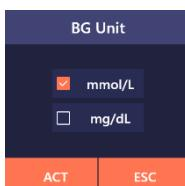

Figure A.2.8
(1) Click “BG Unit” and the setting interface will pop up (as shown in Figure A.2.8). Select “mmol/L” or “mg/dL”, then click “ACT” to save and exit or click “ESC” to exit without saving.